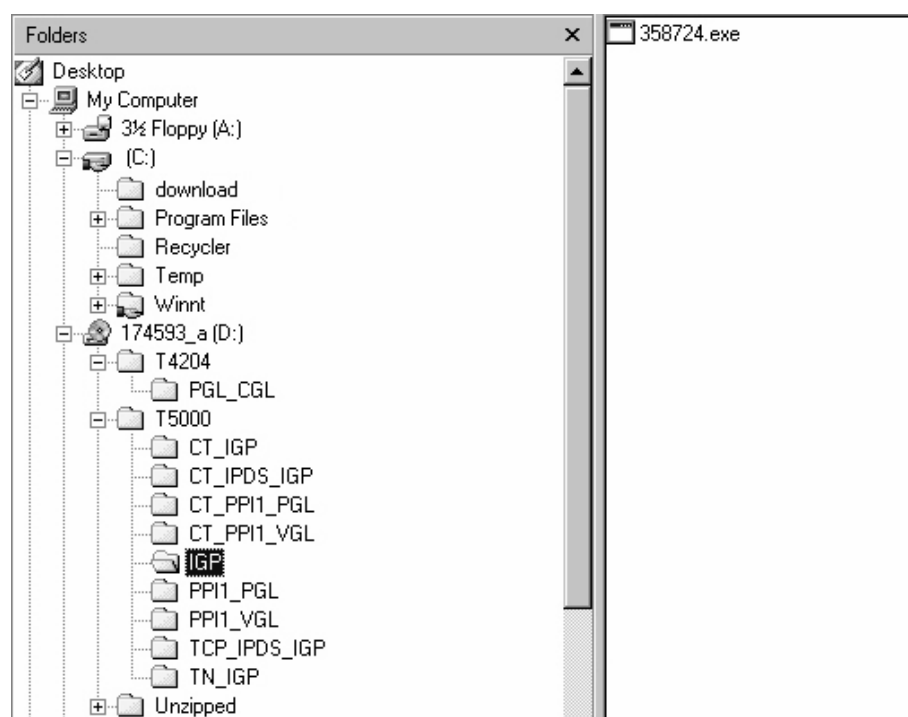

Figure 5. Navigating to the Appropriate Emulation File on the CD
17. Using Windows Explorer, navigate to the appropriate file on the CD based on the printer model number and desired emulation, e.g., T5000 ► IGP. (See Figure 5.)